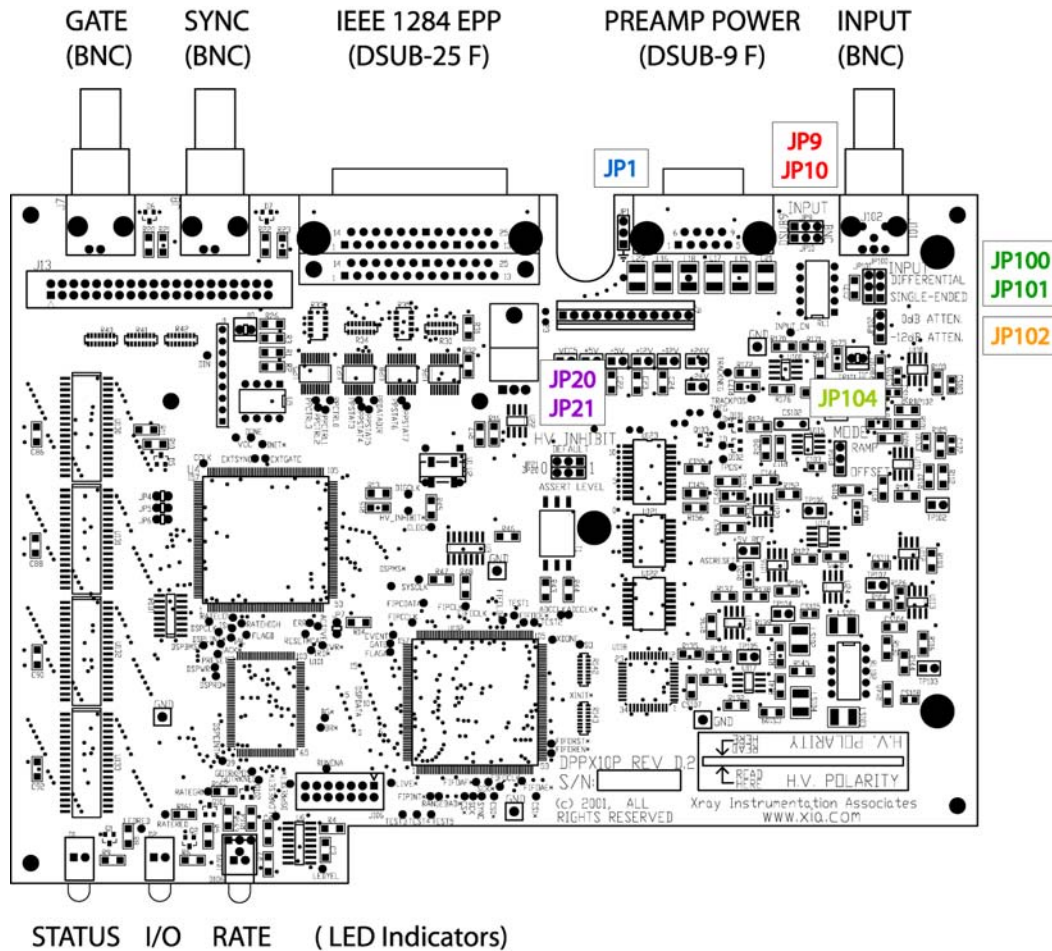

Figure 2.2: Diagram for the DPPX10P Revision D.2 printed circuit board.
Do not attempt to change jumper settings while the DXP Saturn is powered on. All jumper settings are accessed by first removing the top clamshell panel of the chassis. Refer to Figure 2.2 for jumper locations on the DXP Saturn. Appendix A describes the jumper settings, LED indicators and connector locations and part numbers in more detail.
*Refer to **Figure 2.2** for jumper locations.*